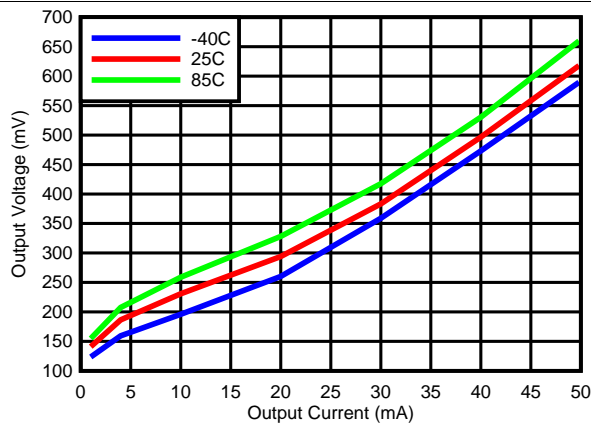
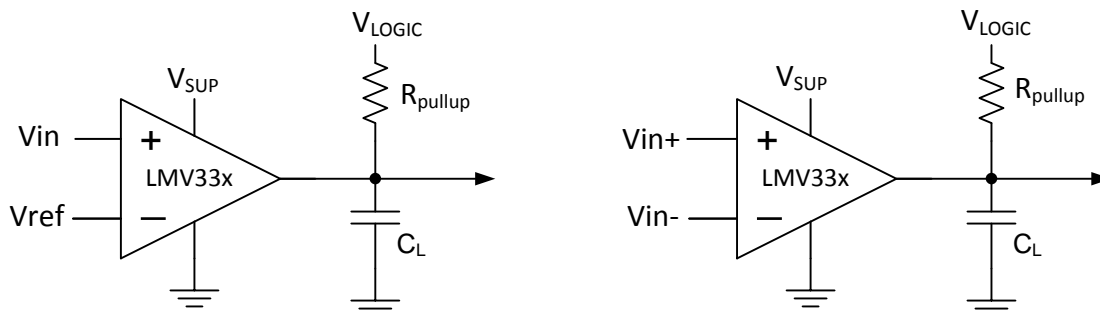

Figure 3. Output Voltage vs Output Current
Figure 9. Typical Application Schematic
The output consists of an open drain NPN (pull-down or low side) transistor. The output NPN will sink current when the positive input voltage is higher than the negative input voltage and the offset voltage. The  $V_{OL}$  is resistive and will scale with the output current. Please see Figure 3 for  $V_{OL}$  values with respect to the output current.
Output current is determined by the pull-up resistance ( $R_{pullup}$ ) and  $V_{logic}$  voltage, refer to Figure 9. The output current will produce a output low voltage ( $V_{OL}$ ) from the comparator. In which  $V_{OL}$  is proportional to the output current. Use Figure 3 to determine  $V_{OL}$  based on the output current.
- $R_{CE}$  can be determine by taking the slope of Figure 3 in it's linear region at the desired temperature, or by dividing the  $V_{OL}$  by  $I_{out}$